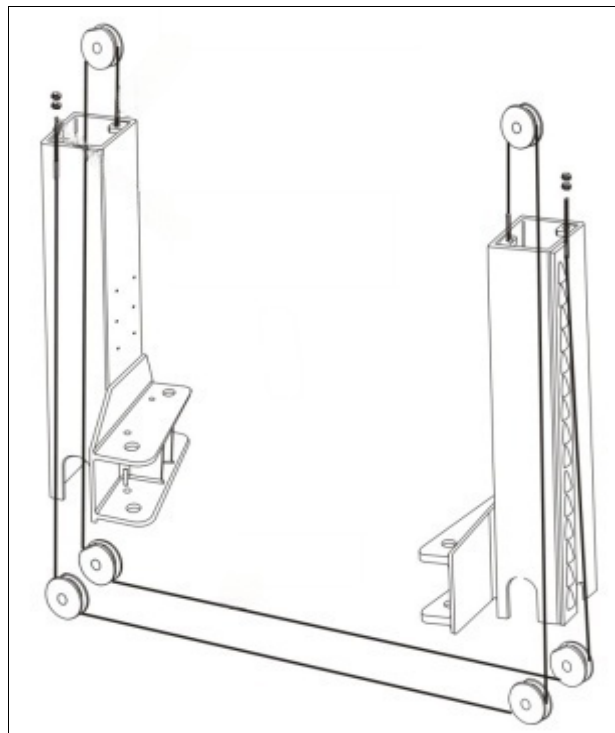

Figure 8 Steel Wire Rope Pulley Block
7.6 Install the balance steel wire ropes. Ensure that the sliding carriages on both sides are at the first gear of the safety device, and install the balance steel wire ropes according to the track shown in Figure 8. Do not tighten the nuts for the time being; adjust the tightness of the two steel wire ropes during the synchronization commissioning.